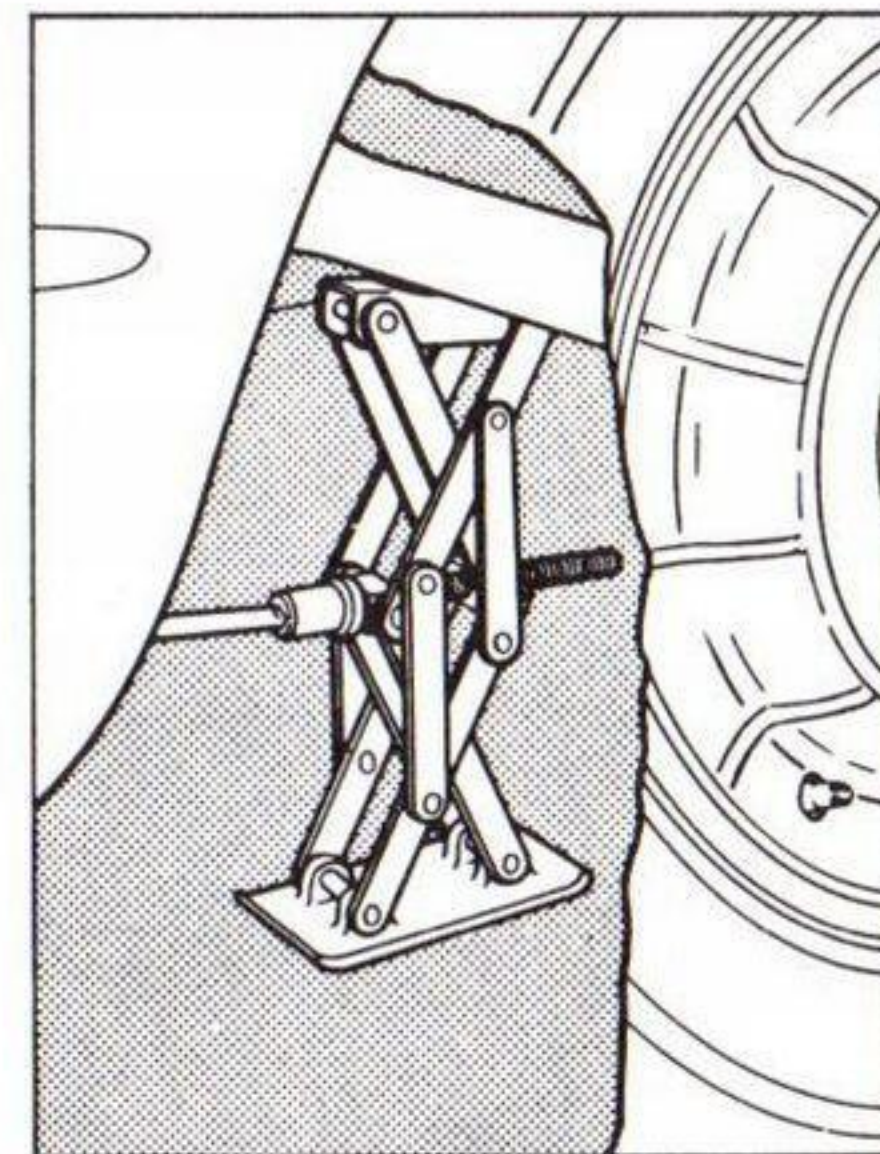

Fig. 72—Position of Jack for Rear Tire Change
- b. At rear wheel, place jack under rear axle housing near rebound strap (fig. 72).